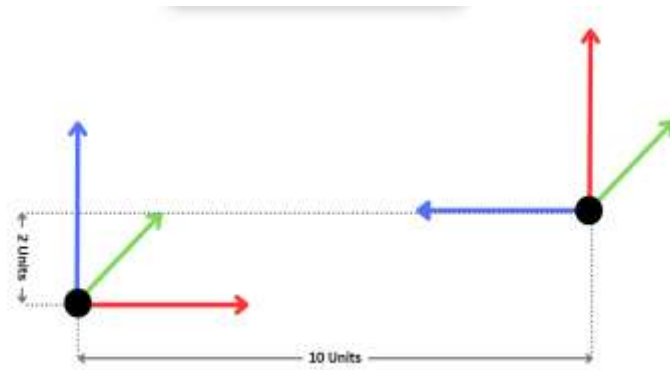

Fig. 8 An Example of Transformation
2) *Dynamic*: These allow for relative movement in usually one dimension but multi-degree-of-freedom transforms are also allowed. [Fig.8]